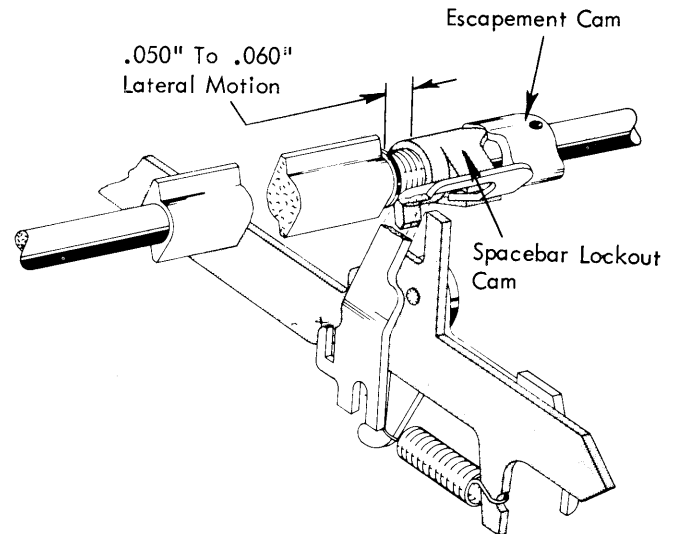

FIGURE 120. *Lateral Adjustment Of The Escapement Cam*
- a. Lockout Cam - Adjust the escapement cam left or right on the filter shaft so that when the lockout cam is on the high point of the escapement cam the lockout cam will have .050" to .060" lateral motion remaining toward the left (Fig. 120).